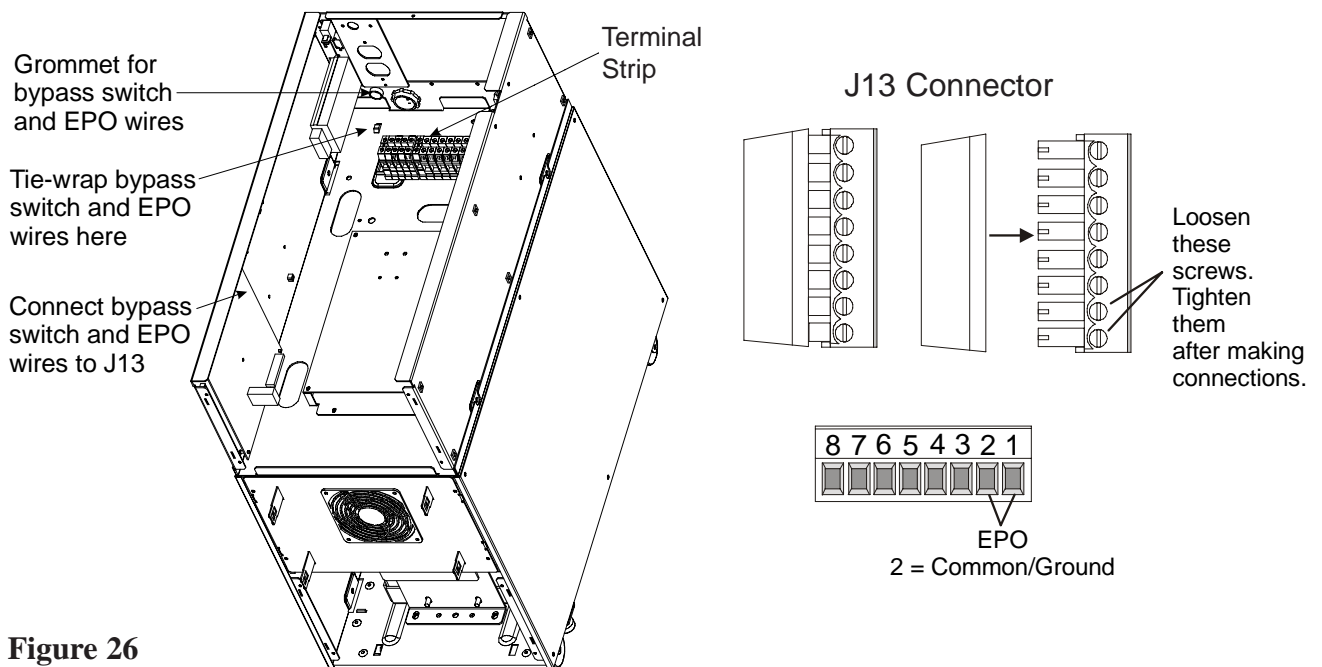

Figure 26
Your computer room’s emergency shutdown switch must have a set of **dedicated** contacts that can short pin 1 of J13 to pin 2. Use a shielded, single twisted pair cable to connect the emergency shutdown switch to the UPS. See Figure 26. When pin 1 is shorted to pin 2, the FERRUPS output power is shut off. When this happens, the FERRUPS will display an “EPO Shutdown” alarm. To restart the UPS after a shutdown, press the On/Off switch on the UPS back panel, and press a button on the front display panel to confirm the restart.
If your unit has an external (separate) bypass switch, you must also connect wires from the bypass switch to J13 on the UPS logic board. (See Figure 26 on the next page.) It is best to make this connection at the same time that you connect the bypass wires to J13 (see step 8 in Section 302). To make the connection, follow the steps on the next page.
2. Route the EPO cable through the grommet shown in Figure 26 and to connector J13 on the logic board.
3. Pull the 8-pin connector at J13 apart as shown in Figure 26. The portion you remove from the connector has 8 possible connection points.
4. Loosen the standard screws shown in Figure 26.
7. Use the tie-wraps provided to secure the cable. See Figure 26.